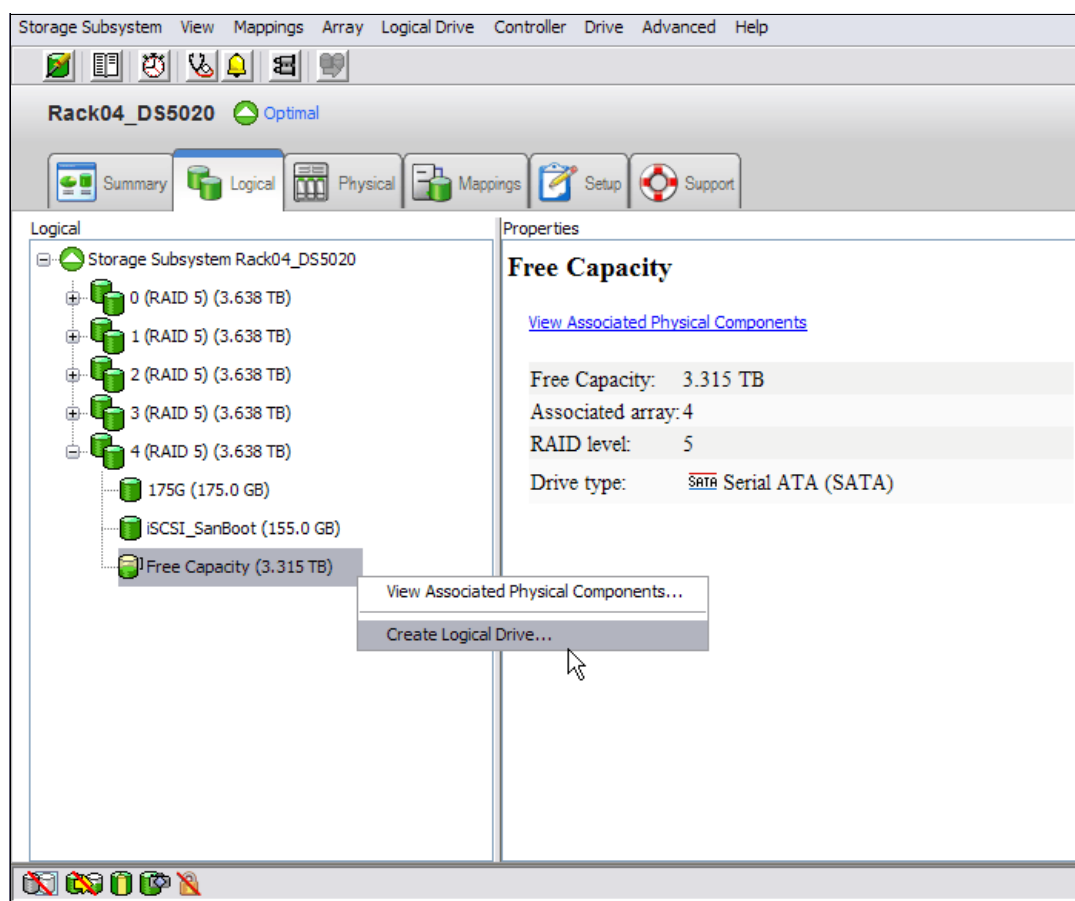

Figure 6-21 Create Logical Drive
- b. Right-click **Free Capacity** → **Create Logical Drive...**, as shown in Figure 6-21.